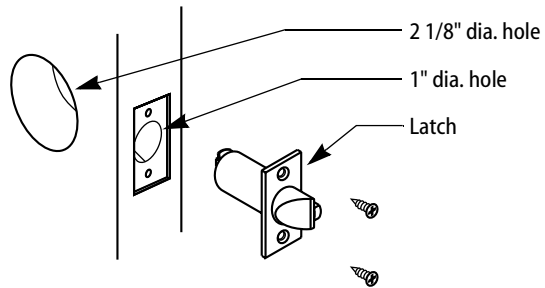

Figure 3—Boring two holes and installing the latch
- 1 Bore a 2 1/8" diameter hole from both sides of the door, to the center of the door as shown in Figure 3.